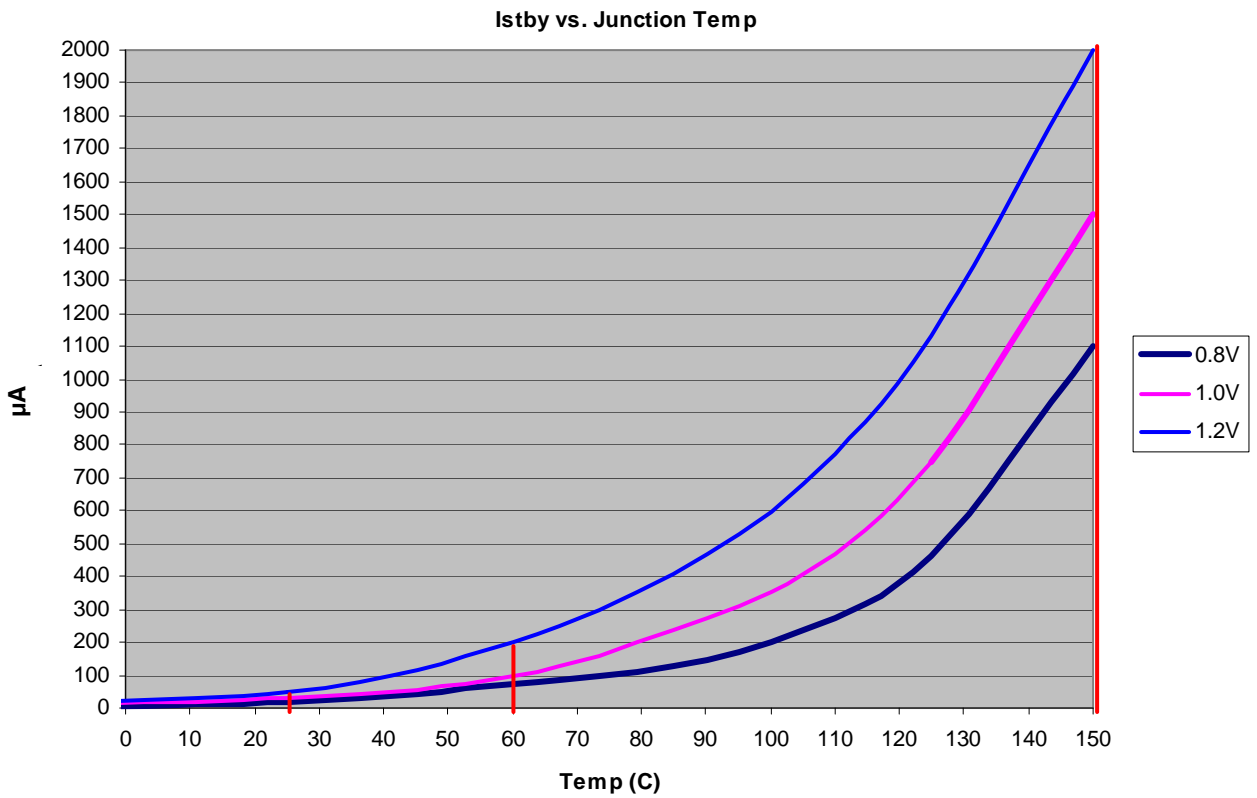

Figure 3. I_{STBY} Worst-case Specifications
| 27d | Refer to Figure 3 for an interpolation of this data. ¹¹ | | | | |
- 7 Figure 3 shows an illustration of the I_{DD_STBY} values interpolated for these temperature values.
- 11 Figure 3 shows an illustration of the I_{DD_STBY} values interpolated for these temperature values.
Figure 3 shows an approximate interpolation of the I_{STBY} worst-case specification to estimate values at different voltages and temperatures. The vertical lines shown at 25 °C, 60 °C, and 150 °C in Figure 3 are the actual I_{DD_STBY} specifications (27d) listed in Table 9.